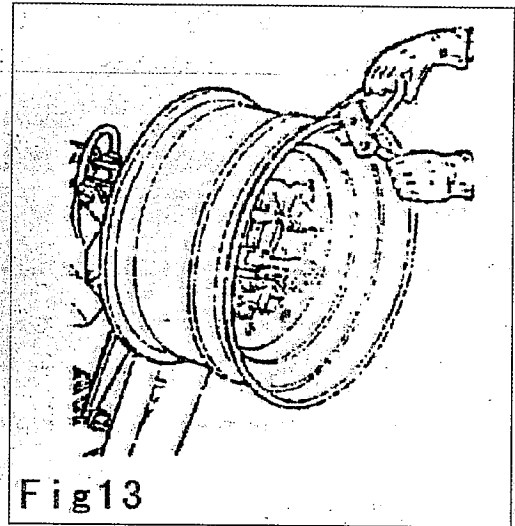
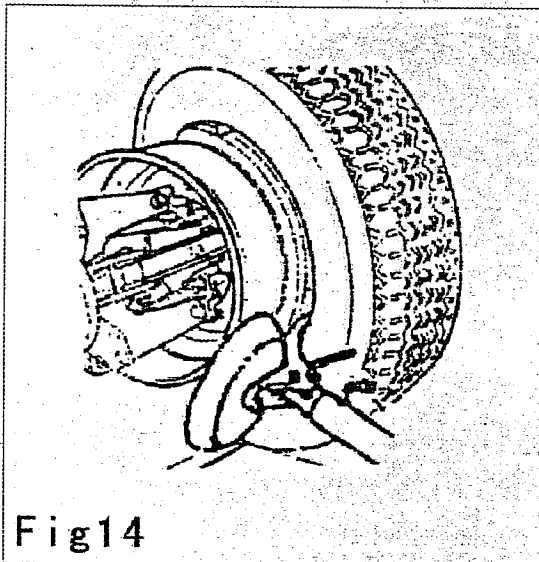
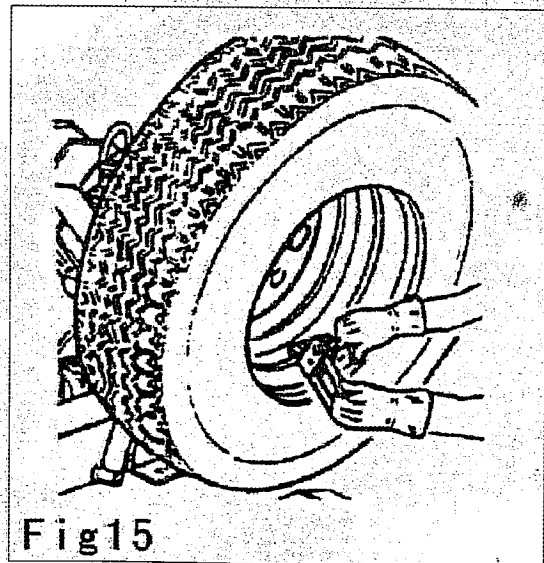

Fig13
Fig14
Fig15
(1) Make sure that the rim is locked on the hydraulic gripping device.
(2) Grease both beads and tyre edges.
(3) Fix the pliers at the outer rim edge at its highest point. (fig 13)
(4) Position the tyre on the plate and lower the flange-hold arm, then adjust the position between the tyre carriage and flange-hold arm, put the inside tyre on the rim which has been locked by the pliers. (take care to keep the plier at its highest point)
(5) Lift the bead and tyre, and turn it clockwise of 15-20mm, the tyre will position itself obliquely relating to the rim.
(6) Check that the peak tool is in the direction toward the tyre, if not so, put down the positioning lever, and turn 180°, then fix it.
(7) Position the peak tool by means of the operation control switch, 5mm from the rim.
(8) Turn the wheel clockwise until the pliers in its lowest point. (fig. 14)
(9) Remove the pliers from the rim, and set the tool in resting position. (out of work)
(10) Position the tool-holder to the outside of the tyre, and fix the position.
(11) Set the pliers outside the bead, and rotate until it to the upper position of the peak tool. (fig. 15)
(12) Turn the tyre counterclockwise, until the pliers at its lowest point.
(13) Take away the pliers.
(14) Position the plate under the wheel vertical and lower the flange holding arm so as to set the wheel on it.
(15) Unscrew the hydraulic gripping device, taking care to hold up the wheel and prevent a possible rolling down, pay much attention to the safety.